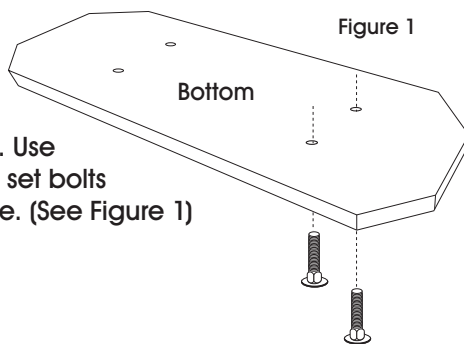

Figure 1
1. Push 2 1/4" carriage bolts through the pre-drilled holes of a seat. Use the hammer to set bolts firmly into place. (See Figure 1)